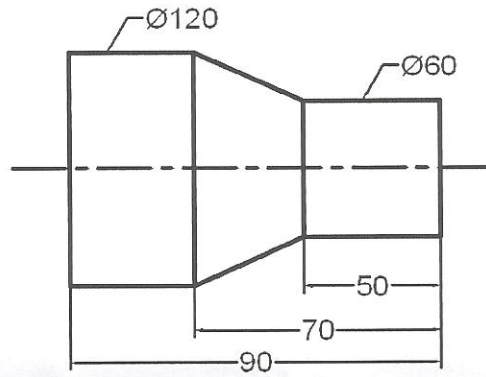

Fig. 2.
b) A system is shown in fig.2. find the equation of motions of masses for the condition if $m_1 = m_2 = m = 9.8 \text{ kg}$, if both the masses are displaced in downward direction and released, $k_1 = k_3 = 8820 \text{ N/m}$, $k_2 = 3430 \text{ N/m}$ find the natural frequencies. [8]
- Q.8 A. Discuss the problem Modeling and Boundary Conditions for the following cases: (8)
- B. Explain how symmetry is used in FEA with application. (8)
- Q.9 A. Compare NC, CNC & DNC. What are the advantages of combining CNC & DNC? (4)
- B. What is a canned cycle? Explain with suitable example. (4)
- C. Write a manual part program for finishing forged components as shown in the Fig. 2. Assume the speed & feed on the turning center as 670 rpm & 0.26mm/rev. assume 1mm material is to be removed radially from external diameter. (8)